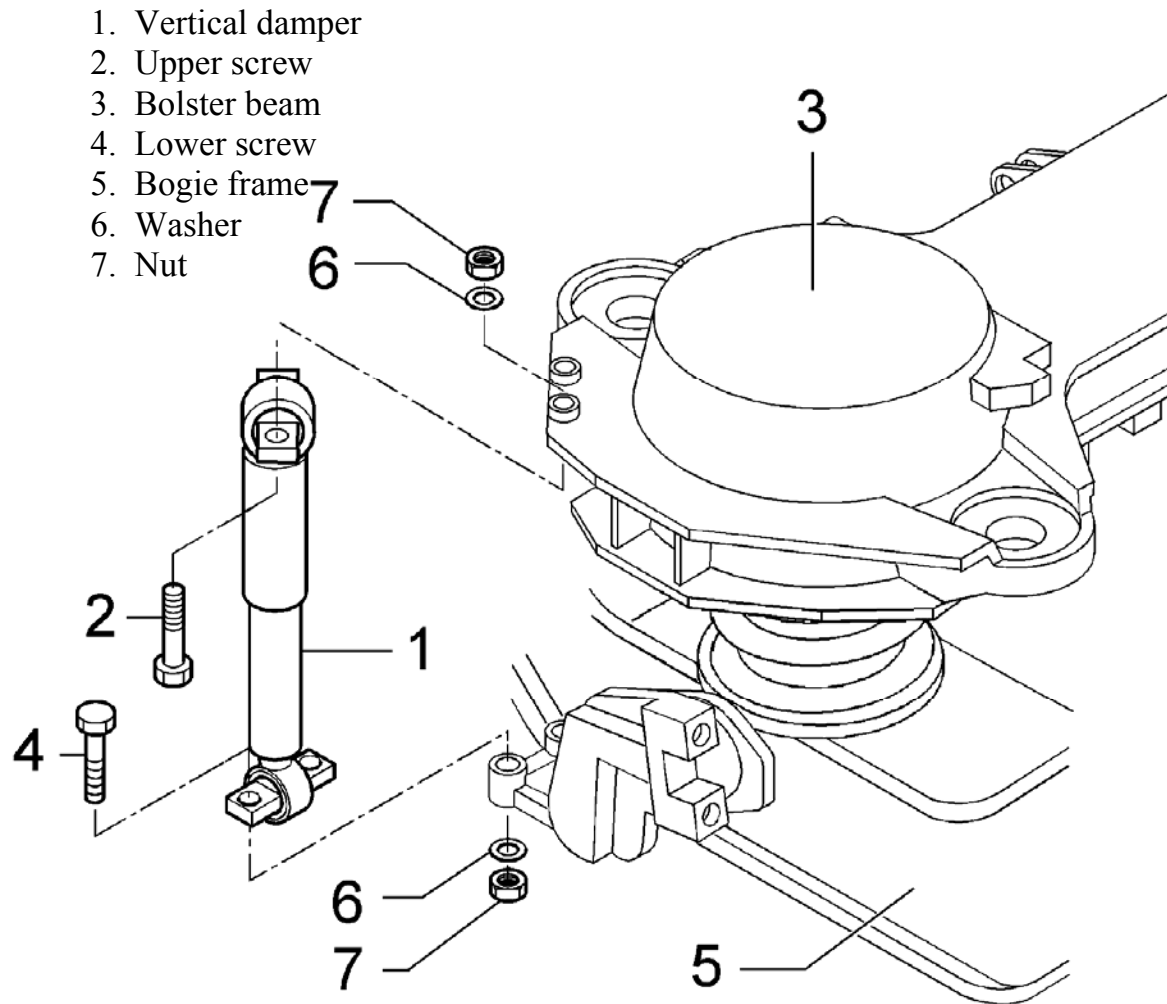

FIG. 4.20 VERTICAL DAMPER REMOVAL
Remove both vertical dampers (1 - FIG. 4.20) extracting the screws (2) which fix the upper end to the bolster beam (3) and those (4) fixing the lower end to the bogie frame (5). In both cases recover the washers (6) and the nuts (7).